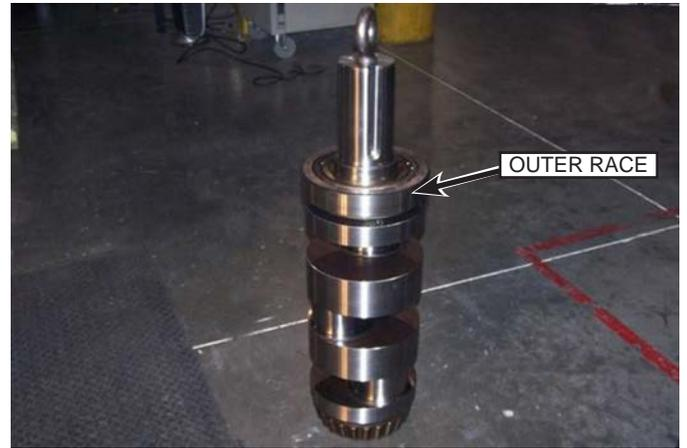

Fig. 157: Outer Race Installation
- Install the outer bearing race (Fig. 157) onto the inboard bearing.